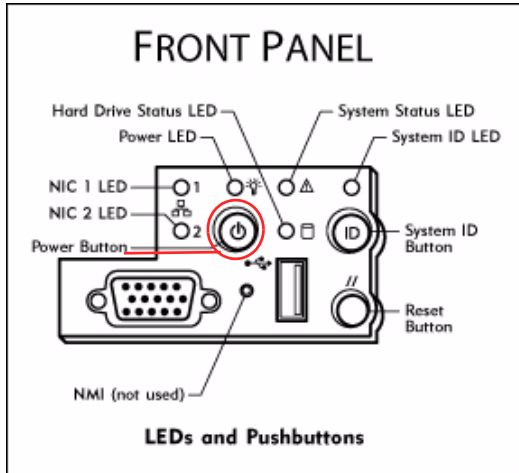

FIGURE 3-24 Power Button and Front Panel Detail
6. Power up the server H1 (serial number ending in “-H1”) by pressing the Power button (FIGURE 3-24) on the front panel (behind the faceplate).